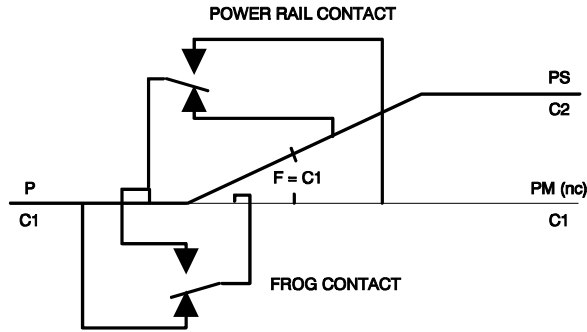

Figure 5-5 Power Rail Routine to Siding
In Figure 5-5, the same switch is aligned for the siding. Note that the contacts move with the points, and the frog (F) is now connected to the C1 rail. The siding power rail (PS) is connected to the power rail for the main (P), and the main line power rail (PM) beyond the switch is not connected. A train will now run on the siding, but remain stopped on the main.